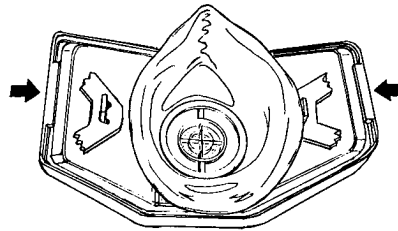

FIGURE 6
6. Snap both sides of the filter holder under the tabs on the filter cover. Take care to pinch the filter between the filter holder and the cover around the entire periphery of the filter. (See Figure 6.)